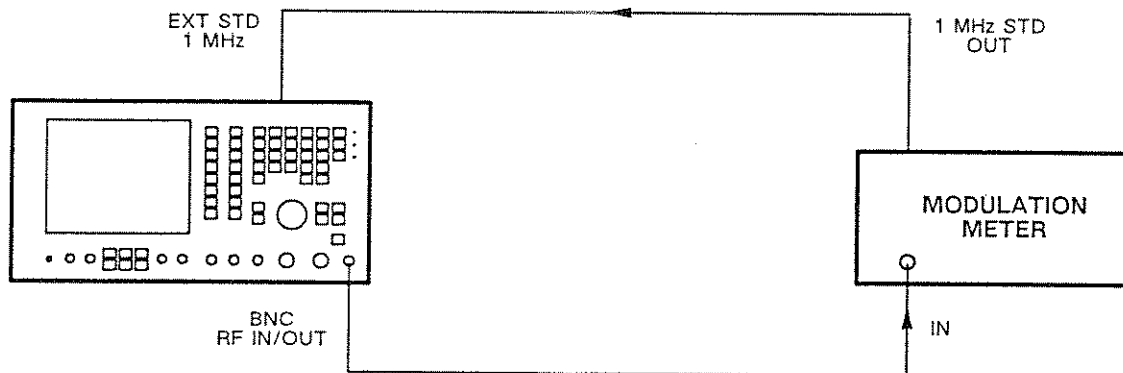

Fig. 6-22 Test equipment connections for RF generator frequency
- (1) Connect the frequency counter to the RF IN/OUT BNC socket. See Fig. 6-22.
- (2) On the 2955B, set the MODE to RECEIVER TEST, GEN FREQ to 1000 MHz, LEVEL to 0 dBm, MOD to OFF and RF IN/OUT socket to BNC.
- (3) Check that the counter reading is the same as the GEN FREQ setting ± 20 Hz.
- (4) Reset the GEN FREQ to other frequencies between 0.4 and 1000 MHz and repeat (3).